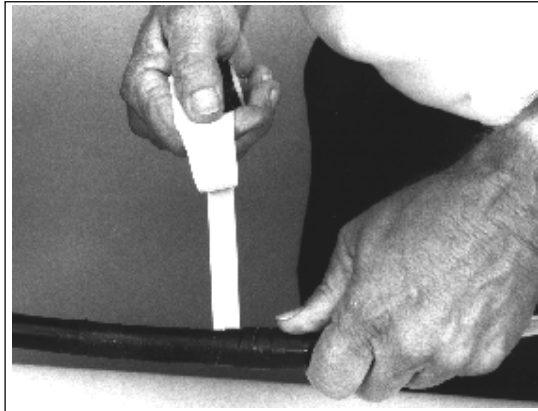

FIGURE 16 - APPLYING LOCK-TAPE
7.04 Apply required number of half-lapped layers of 3/4" LOCK-TAPE™ Sealant around the cable in the area coated with C-cement. Stretch tape while applying. (Figure 16)